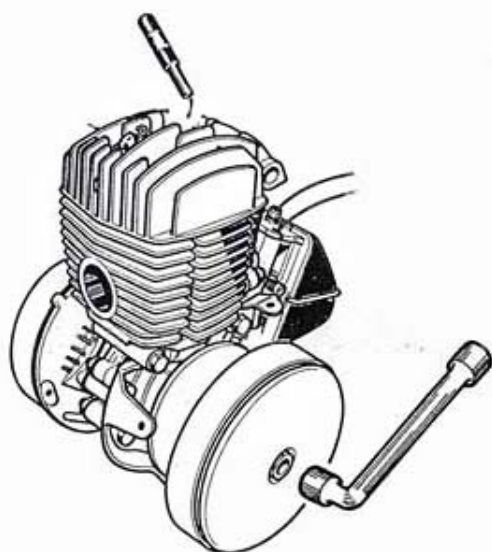

Fig. 1
- Fit the stroke limiter (100004) as shown in figure 1.
- Gently loosen the variator drum locknut (14mm socket, fig. 1).